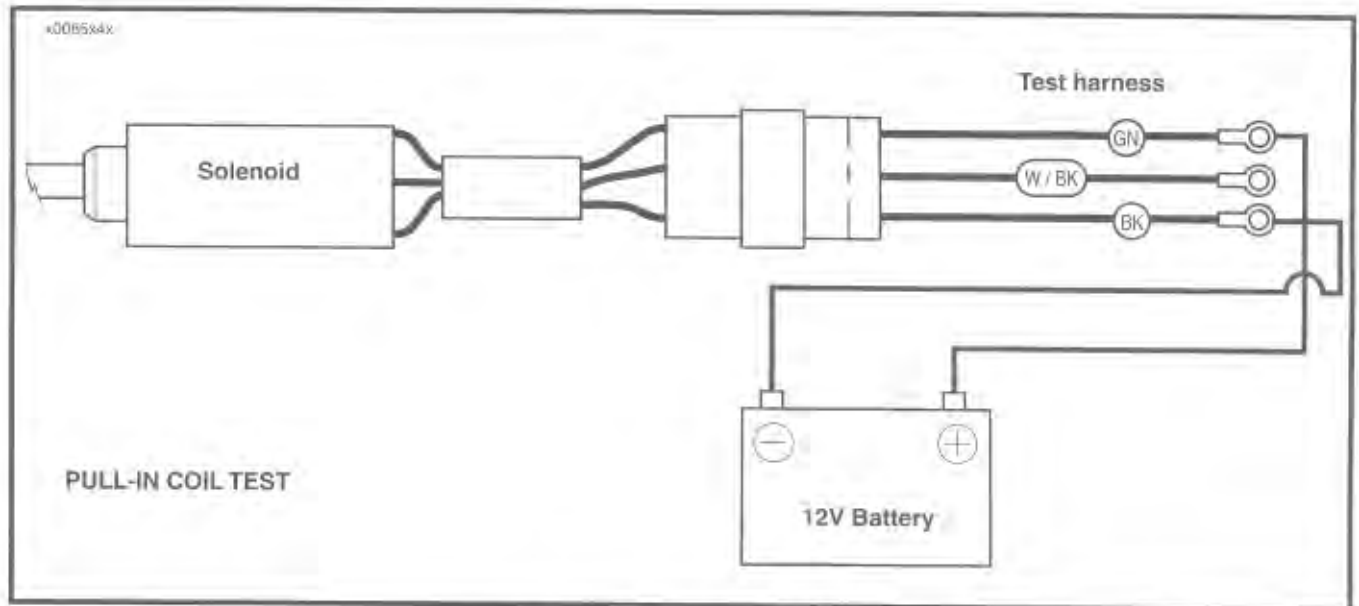

Figure 4-18. Pull-in Coil Test
1. See Figure 4-18. Connect a 12-volt battery to the solenoid test harness as shown. The butterfly valve must open.